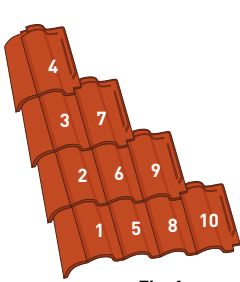

Fig. 1
3. See **fig.1** for sequence of installation for first and succeeding courses of tiles from the eave to the ridge.